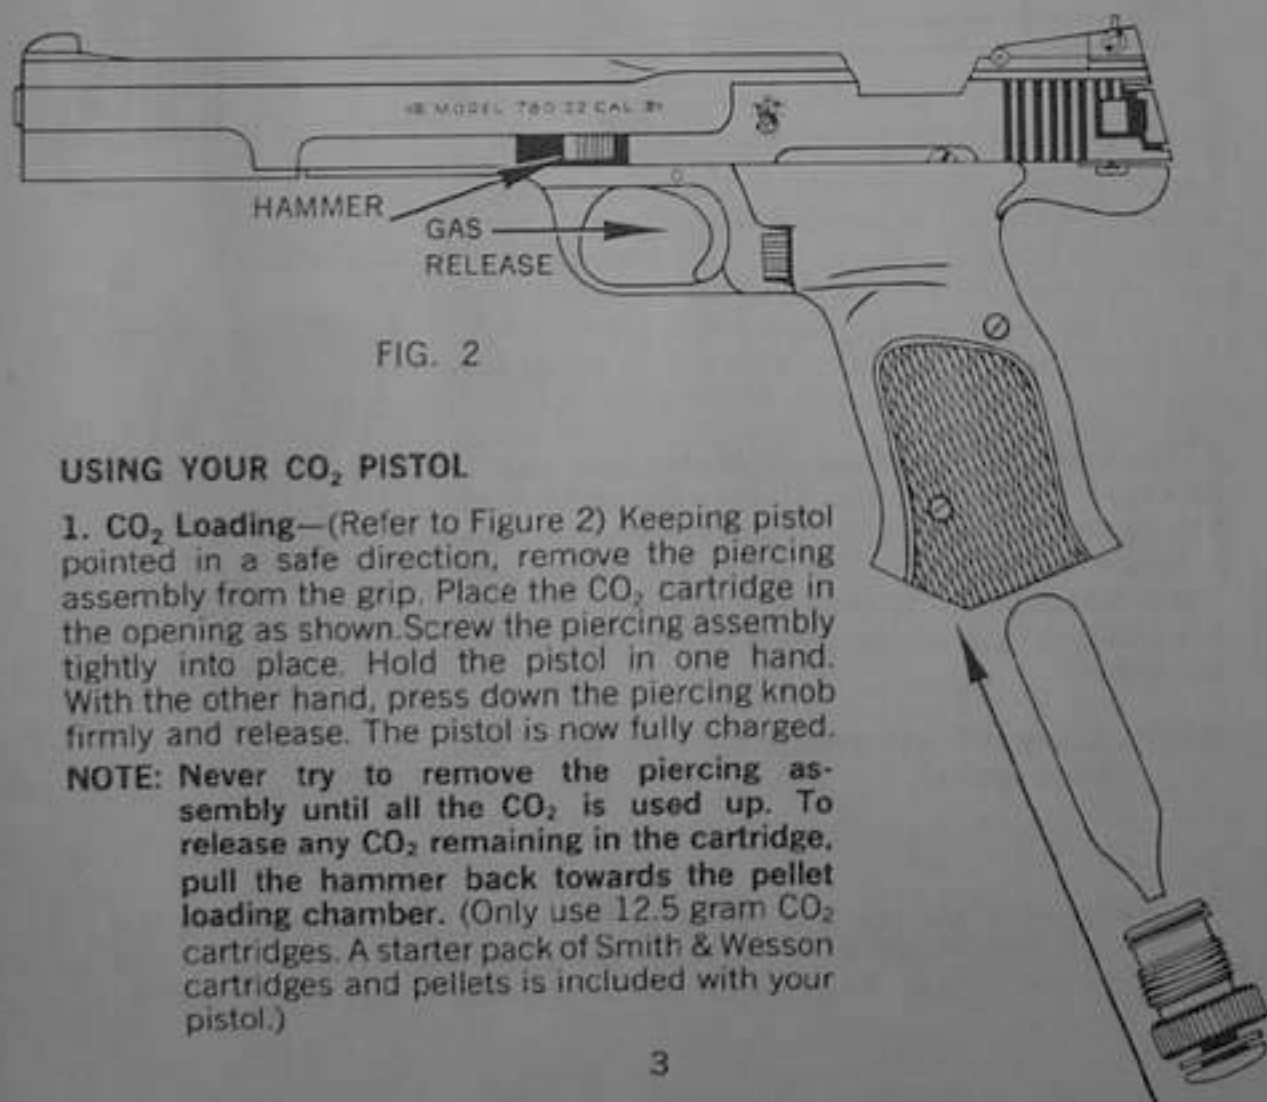

FIG. 2
1. CO₂ Loading—(Refer to Figure 2) Keeping pistol pointed in a safe direction, remove the piercing assembly from the grip. Place the CO₂ cartridge in the opening as shown. Screw the piercing assembly tightly into place. Hold the pistol in one hand. With the other hand, press down the piercing knob firmly and release. The pistol is now fully charged.